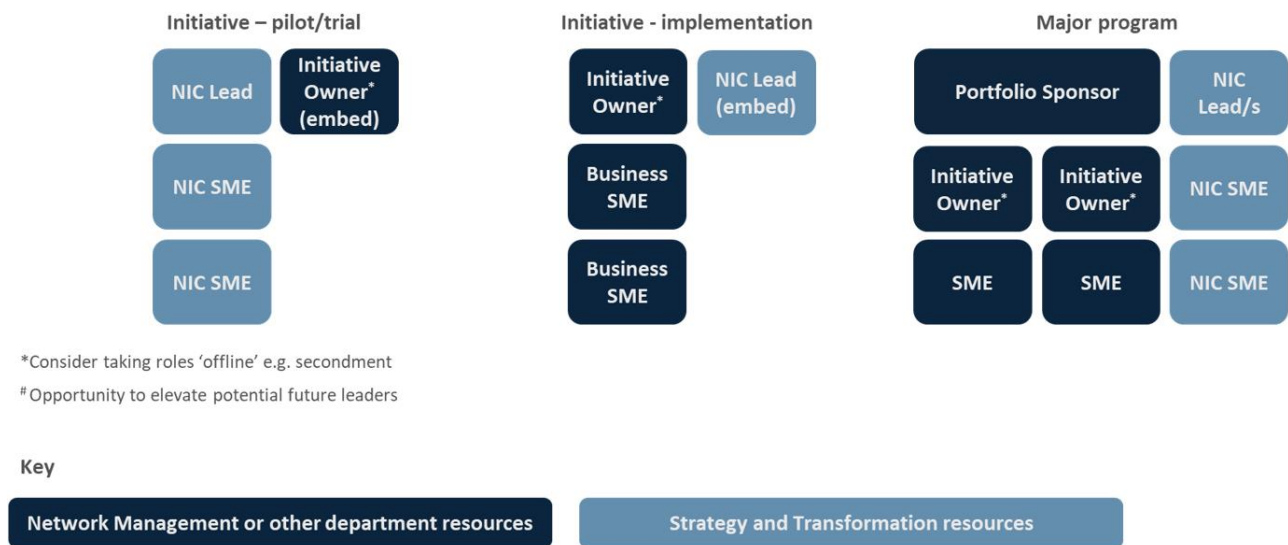

Figure 8 – Strategic Delivery Plan Delivery Models
- A resourcing proposal including the personal structure (see figure 8).